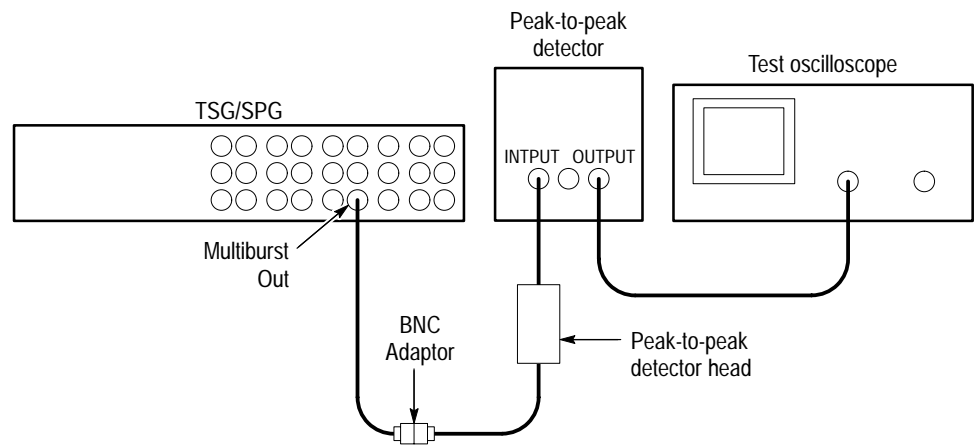

Figure 6–6: Peak-to-peak detector connections
7. Connect the multiburst output from the television test signal generator/sync pulse generator (TSG/SPG) to the peak-to-peak detector head input with two 75 Ω coaxial cables and a female-to-female BNC adapter, as shown in Figure 6–6.
13. Measure the sweep envelope. See Figure 6–7.